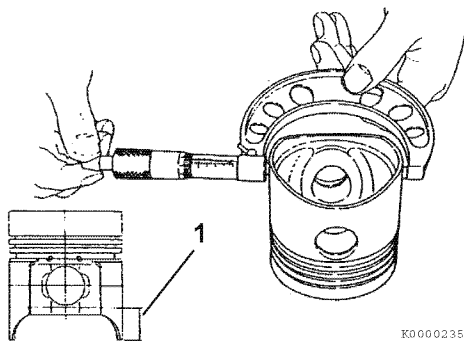

Figure 6-66
4. Measure the diameter of the piston skirt at 90° to the wrist pin bore as shown (Figure 6-66). Measurements must be taken at a specified distance (Figure 6-66, (1)) from the bottom of the piston, based on engine model. Record the measurements. See Piston on page 6-9 for specifications.